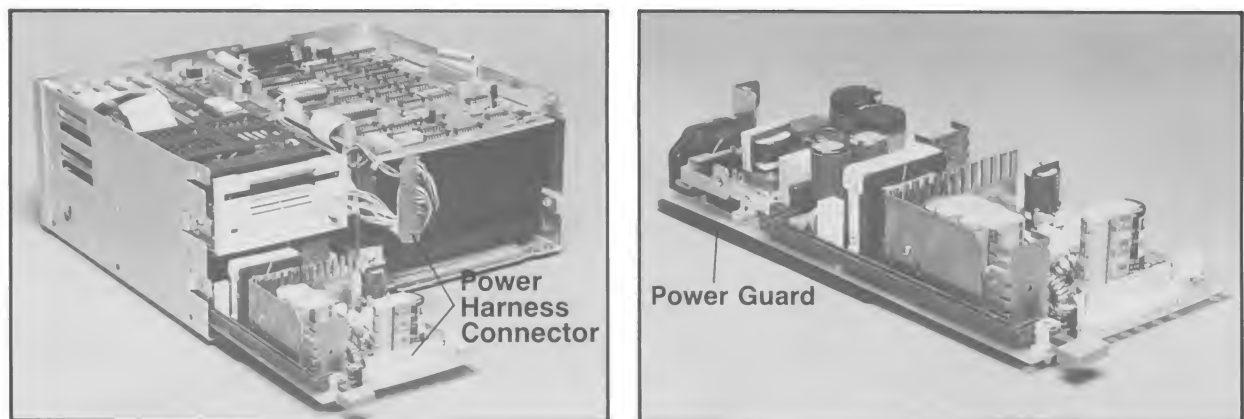

Figure 2-9. Power Supply Removal
3. The Power Supply Assembly is a replaceable assembly. When replacing a defective assembly, do not return the power guard. See Figure 2-9.